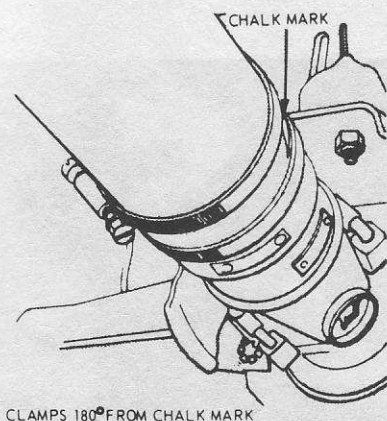

Fig. 7.3 Installing the worm-drive type clips (Sec. 6)
- 6 Install two worm-drive type hose clips on the driveshaft so that the heads are 180° from the chalk mark. Tighten the clips (Fig. 7.3).